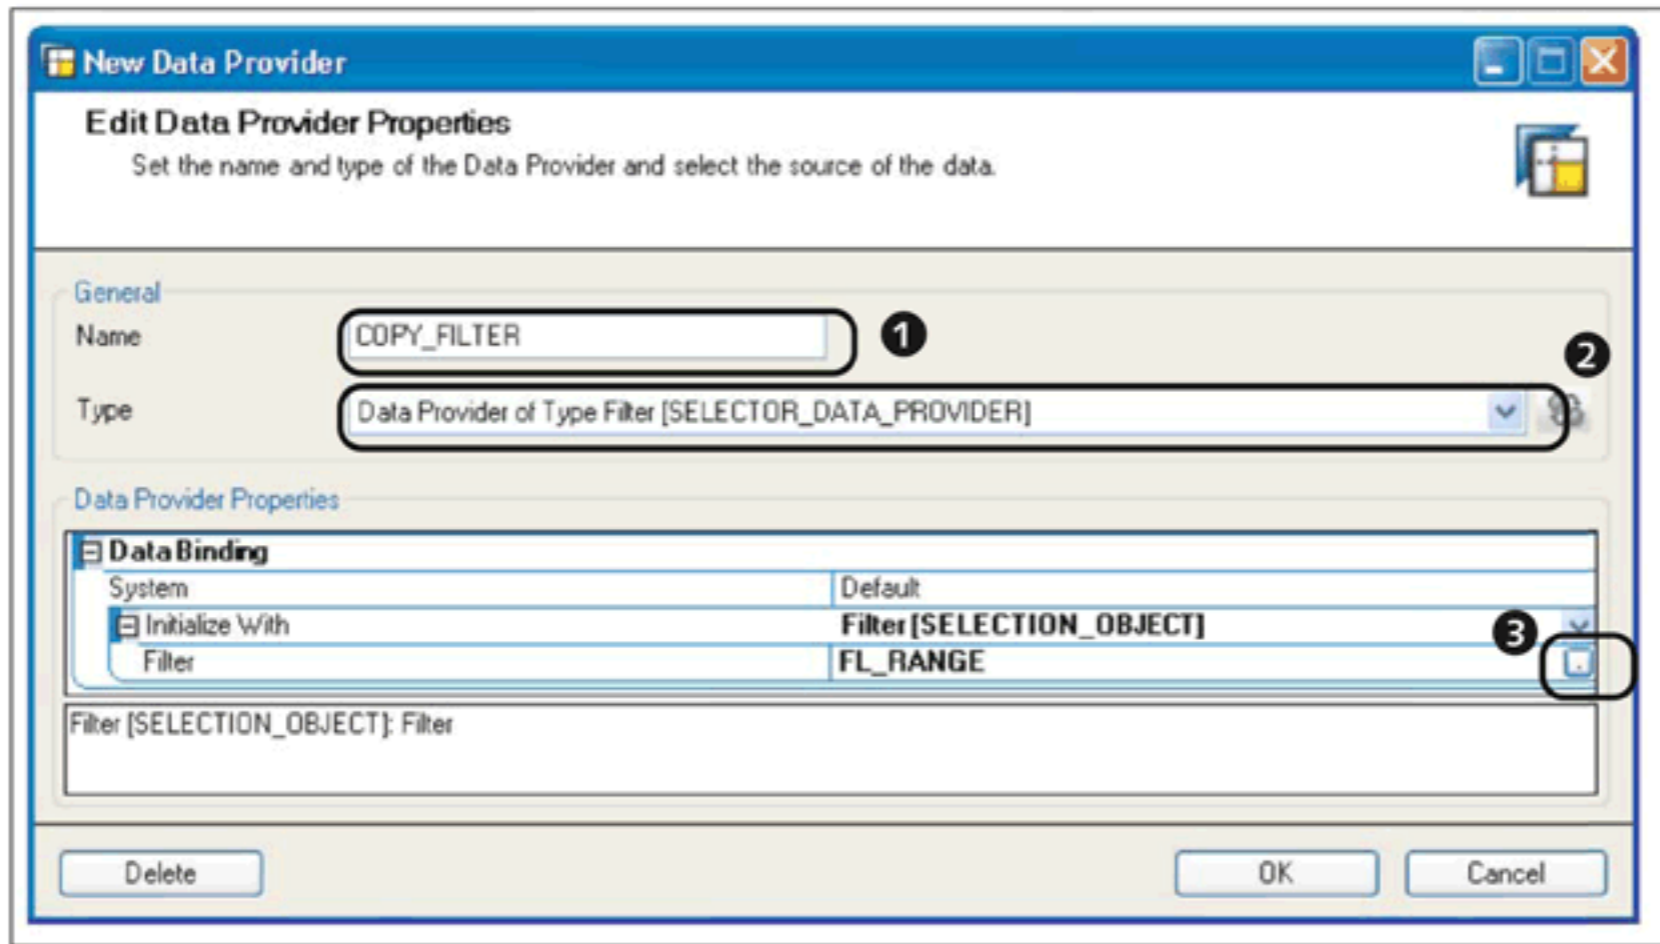

Figure 12.75 Define Filter Data Provider
Another type of data provider needed in building a planning application is the filter type. This type of data provider is used in the execution of planning functions, because planning functions are always executed on some filter. Create a new data provider, as shown in Figure 12.75. Give a description to the data provider (1). Select the type of data provider as FILTER (2), and assign the required filter to the data provider using the selection help (3). Click on OK to complete the data provider creation.